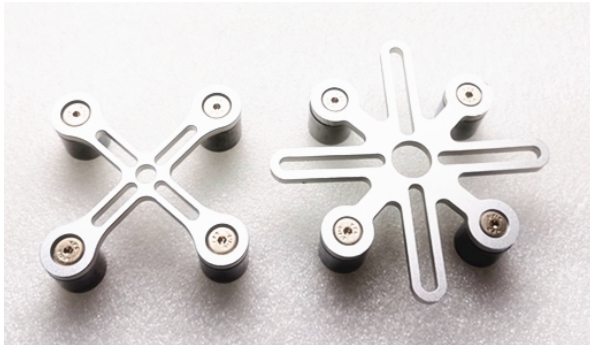
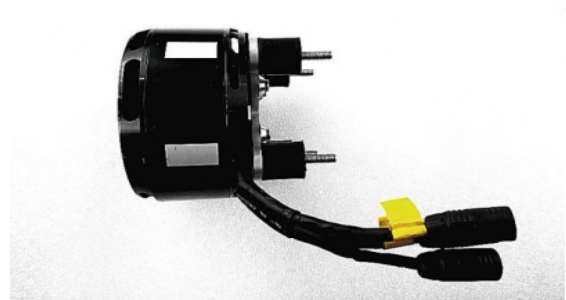

Fig.2.1.1 Motor Mount
Fig.2.1.2 Motor
(1) Choose a suitable motor mount, as shown in Fig. 2.1.1 and Fig. 2.1.2